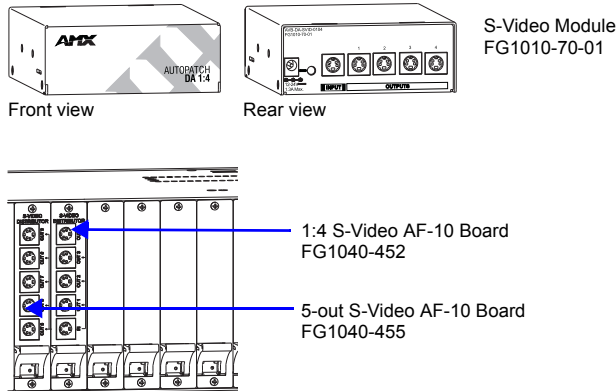

FIG. 1 S-Video DA Module and AF-10 Boards
S-Video Distribution Amplifier (DA) boards are available as either standalone distribution amplifier modules (top in FIG. 1) or as distribution amplifier accessory boards for an AF-10 (bottom in FIG. 1). The S-Video DA Module has one input and four outputs for a 1:4 distribution. S-Video DA boards have five S-Video connectors; either one input and four outputs or five outputs that are paired with the 1:4 board to create a 1:9 distribution amplifier. This guide contains complete information for the module and boards.